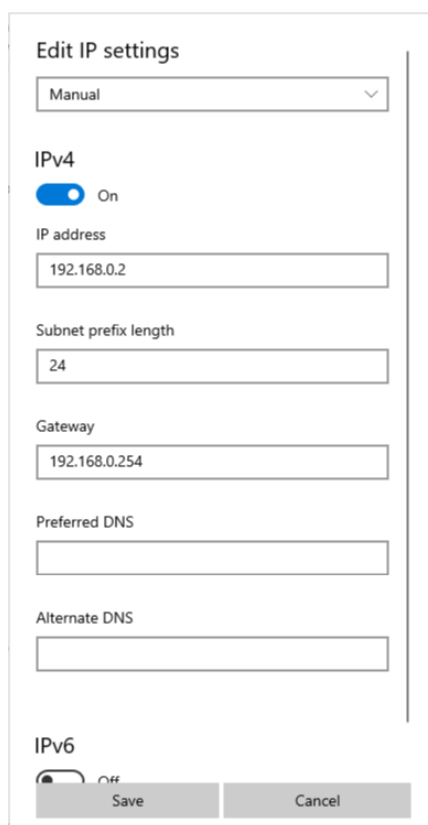

Figure A-2. Manually Setting IP Address
2. Under IP settings, click the "Edit" button and select "Manual" on the drop down to set the IP address manually as shown in Figure A-2. After changing the "IP address", "Subnet prefix length", and "Gateway" fields, click "Save".